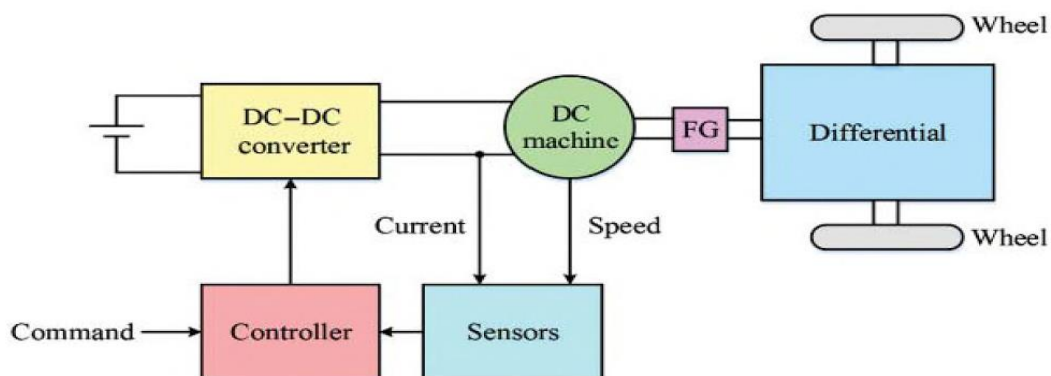

Figure 1: Configuration of DC Motor Drive for Electric Vehicle Propulsion
In Figure 1 below, a block diagram showing the various components of a DC motor drive used for the propulsion of an electric vehicle is provided. This electric vehicle is designed to provide both forward motoring and reverse braking operation. The DC-DC converter is a type of DC chopper, the DC motor (shown as DC machine in Fig. 1) operates at rated speed of 5000 rpm and the fixed gear (FG) is incorporated to step-down the speed to 1000 rpm for driving the vehicle wheels.